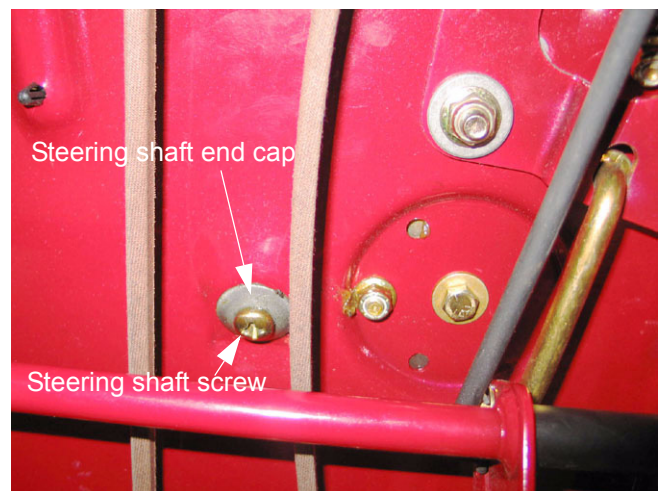

Figure 15.6
- 15.6. If the steering shaft is to be removed, the screw and cap that secure it can be removed using a #4 phillips driver. See Figure 15.6.